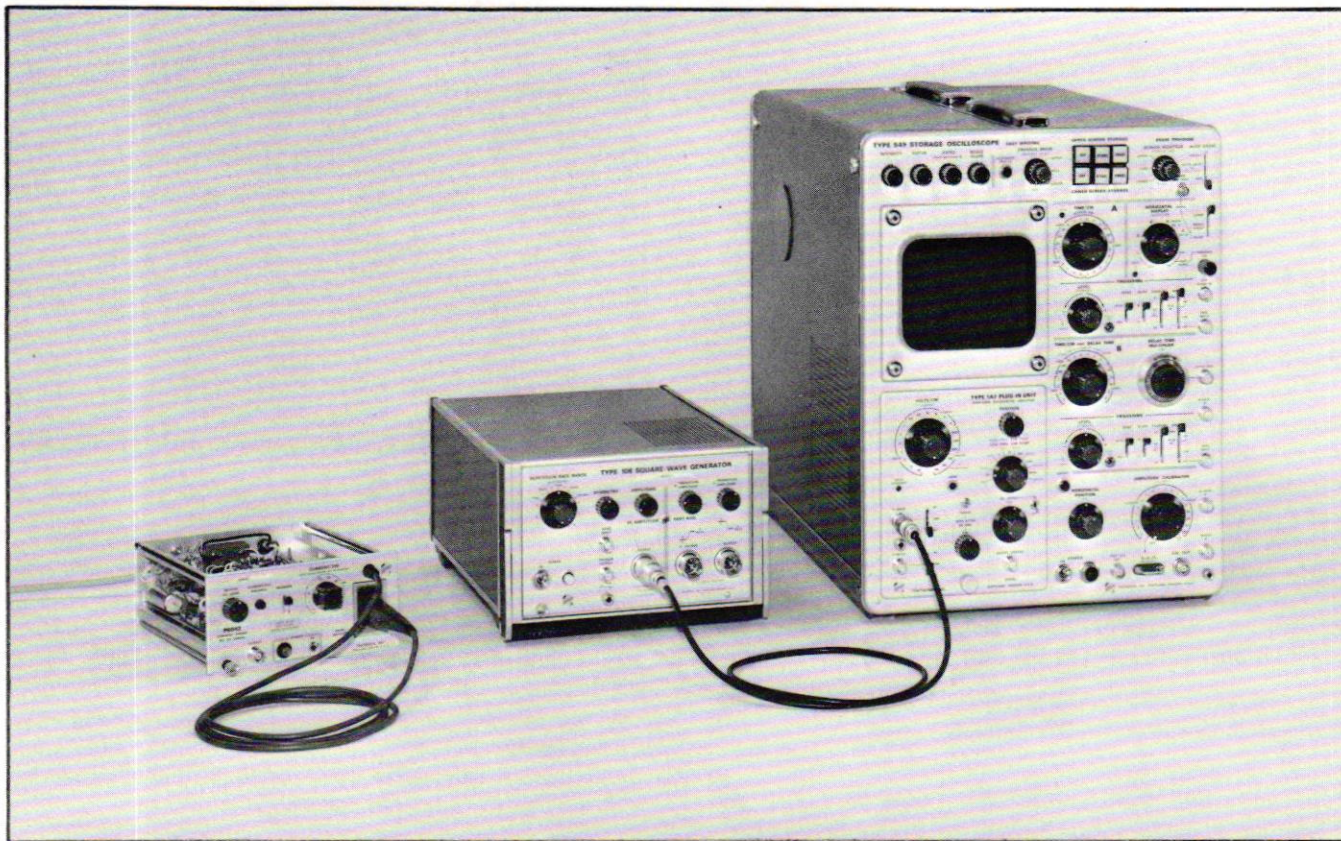

Fig. 6-11. Preliminary test setup for steps 10 and 11.
c. Remove the cable from the P6042 OUTPUT and connect to the square-wave generator Hi Amplitude output, using the GR-to-BNC adapter. See Fig. 6-11.
c. Connect the test equipment as in Fig. 6-11.